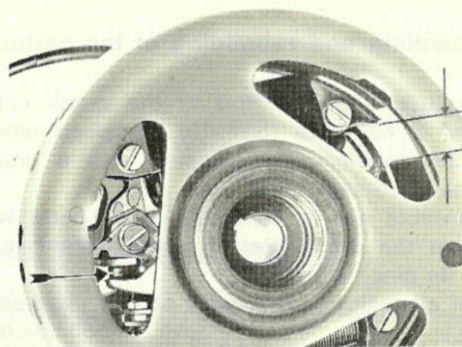

fig. 9
- Turn the flywheel anti-clockwise. The moment the breakerpoints open, the rupture distance between a magnet and the core shoe (A in fig. 9) must be 7-11 mm and the advance 1,8-2,2 mm.